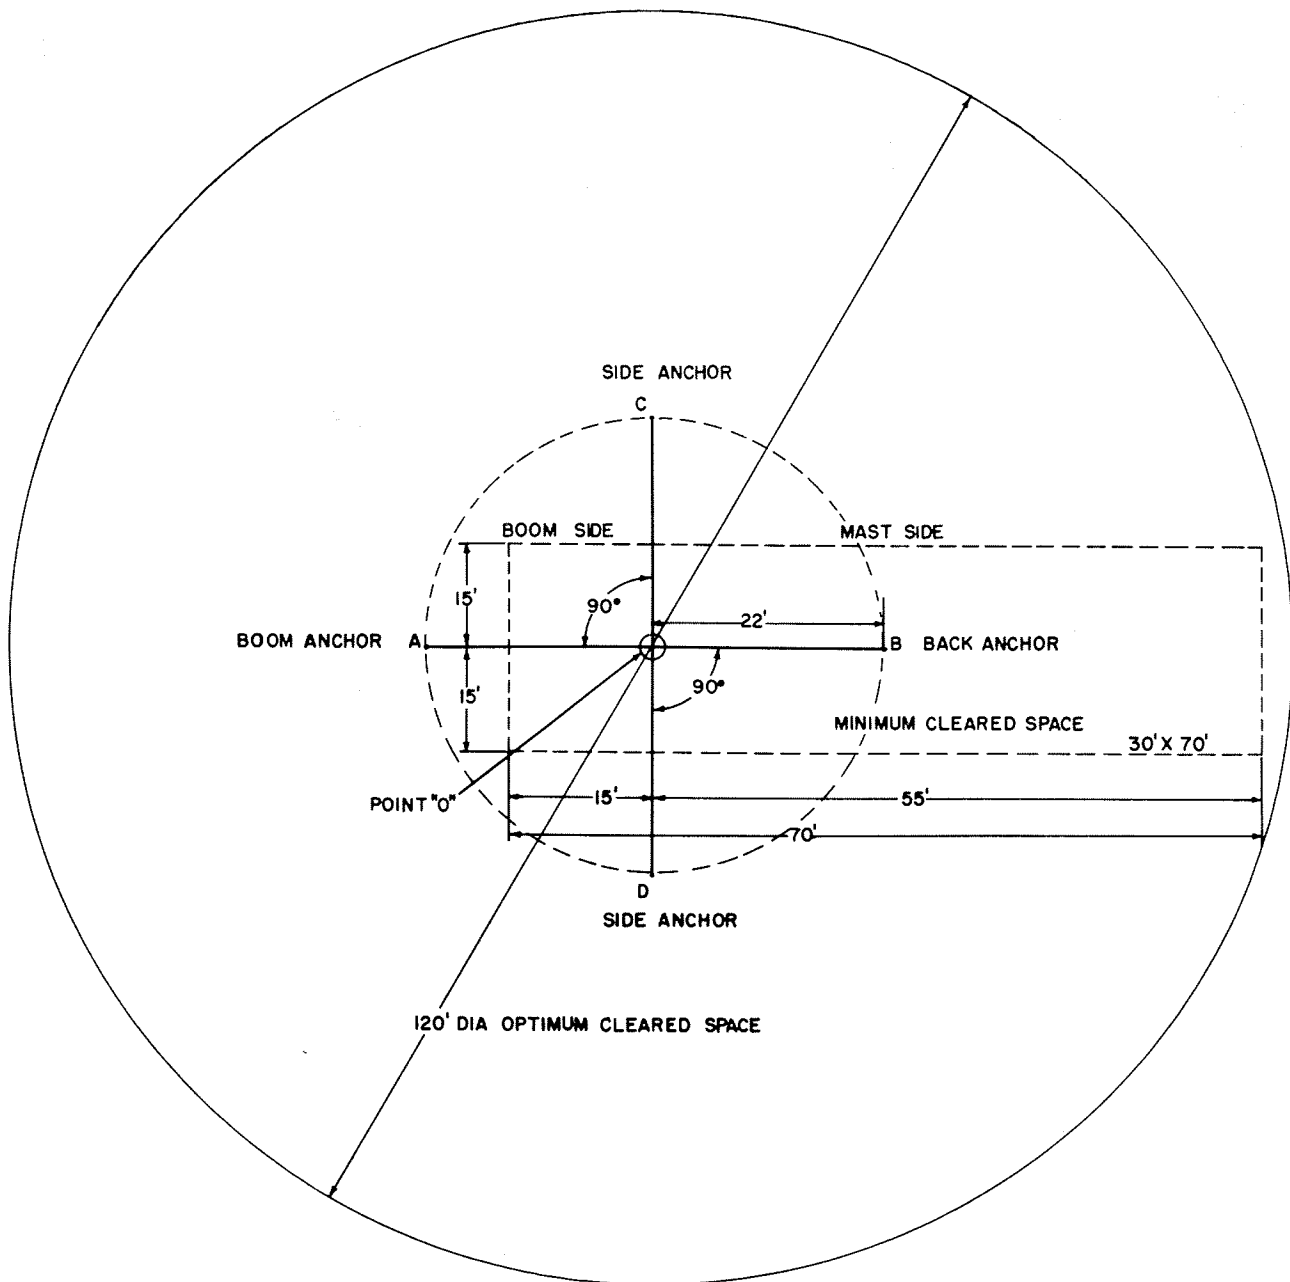
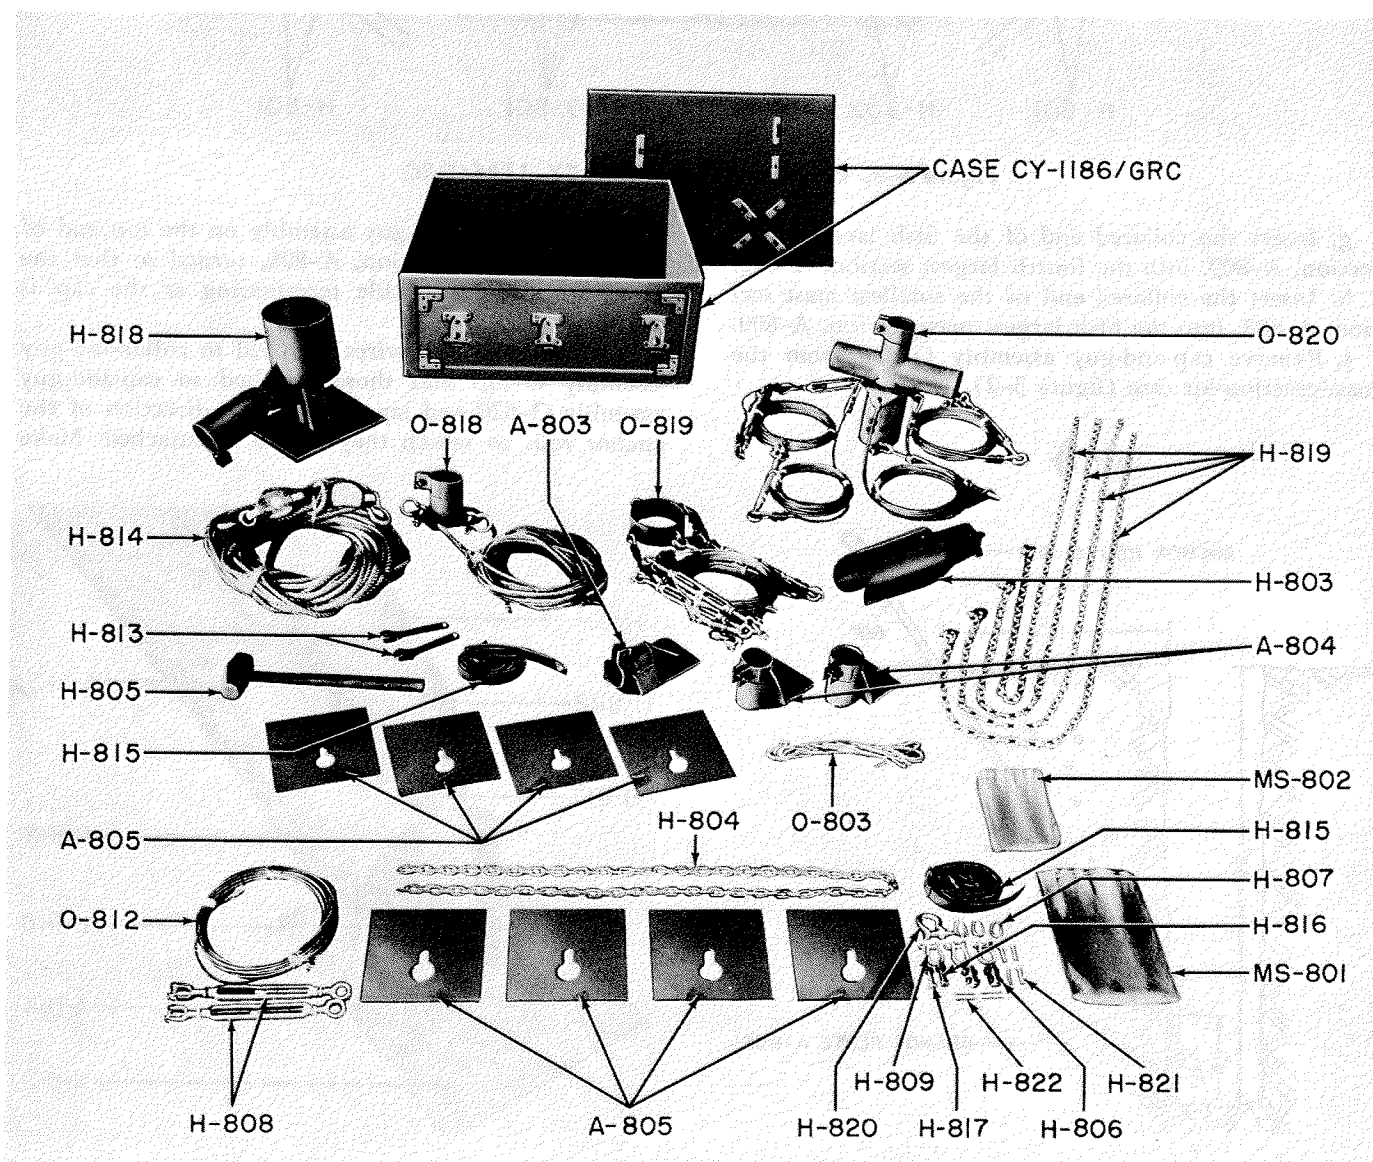

Figure 3-1. Optimum and Minimum Mast-Layout Requirements
Figure 3-2. Contents of Mast Erection Kit Case CY-1186/GRC
3-2. The prime consideration in selecting an operating site is the ease with which the mast can be erected. Do not erect the mast on sandy or swampy ground. The ideal site would be a cleared circle of firm level ground, 120 feet in diameter, free from bushes and obstructions. (See figure 3-1.) The minimum requirement for an operating site is a cleared rectangular area 30 by 70 feet in size with enough clearance so that guy wires will not tangle in bushes or trees when the mast is laid on the ground prior to erection. If a remote installation is to be used, the site can be a maximum of one-quarter mile away from Remote Control Unit RM-52. Since an external power source is required, the installation must be made within 100 feet from where power is, or can be made, available.
3-8. PREPARING THE SITE. (See figure 3-1.) Clear away all brush, trees, and obstructions that might interfere with the erection of the mast. The site selected for the baseplate (point *O*, figure 3-1) should be level and firm. If the ground is too soft, pack gravel into the ground in a three-foot circle around point *O*. Open Mast Erection Kit Case CY-1186/GRC and remove radius rope O-803. (See figure 3-2.)
- a. Remove mast-base assembly H-818 and hammer H-805 from Mast Erection Kit Case CY-1186/GRC (figure 3-2).
- a. Assemble the post-hole digger from the blades, H-803, packed in the mast erection kit case and the handles, H-802, packed in the mast case. (See figures 3-2 and 3-3.)
d. Remove anchor plate A-805 from the mast erection kit case (figure 3-2). Place the anchor plate in the hole, slot up. Slip the plate over the anchor rod so that the narrow part of the slot catches on the head of the anchor rod. Make sure the plate is locked securely against the head of the anchor rod.
e. Remove collar-and-guy assembly O-819 from the mast-erection-kit case (figure 3-2).
- i. Remove cap-and-guy assembly O-820 from the mast-erection-kit case (figure 3-2).
o. Remove boom-cap assembly O-818 and wrench H-813 from the mast erection kit case (figure 3-2).
a. Remove the four chain assemblies, H-819, from the mast erection kit case (figure 3-2). Attach one of the four chains to each anchor with a screw-pin shackle. Unscrew the pin from the shackle supplied, slip the shackle through the eye of the anchor rod and through the end link of the anchor chain. Reinsert the screw pin and tighten it securely with wrench H-813.
e. Remove block and tackle H-814 from the mast erection kit case (figure 3-2). Hook the block with the becket to the upper shackle on boom-cap-assembly clamp H-818. Tighten all pin shackles and check the boom vang ropes to see that they are secure and not slack.
- Remove five straps, H-815, from the mast erection kit case (figure 3-2). Strap the cable to the crossarm about two feet back from the mounting assembly. Strap the cable to the mast about two feet down from cap-and-guy assembly H-820 and about two feet up from the base of the mast. Strap the cable to the third and fifth largest mast sections (A-811 and A-809, respectively).